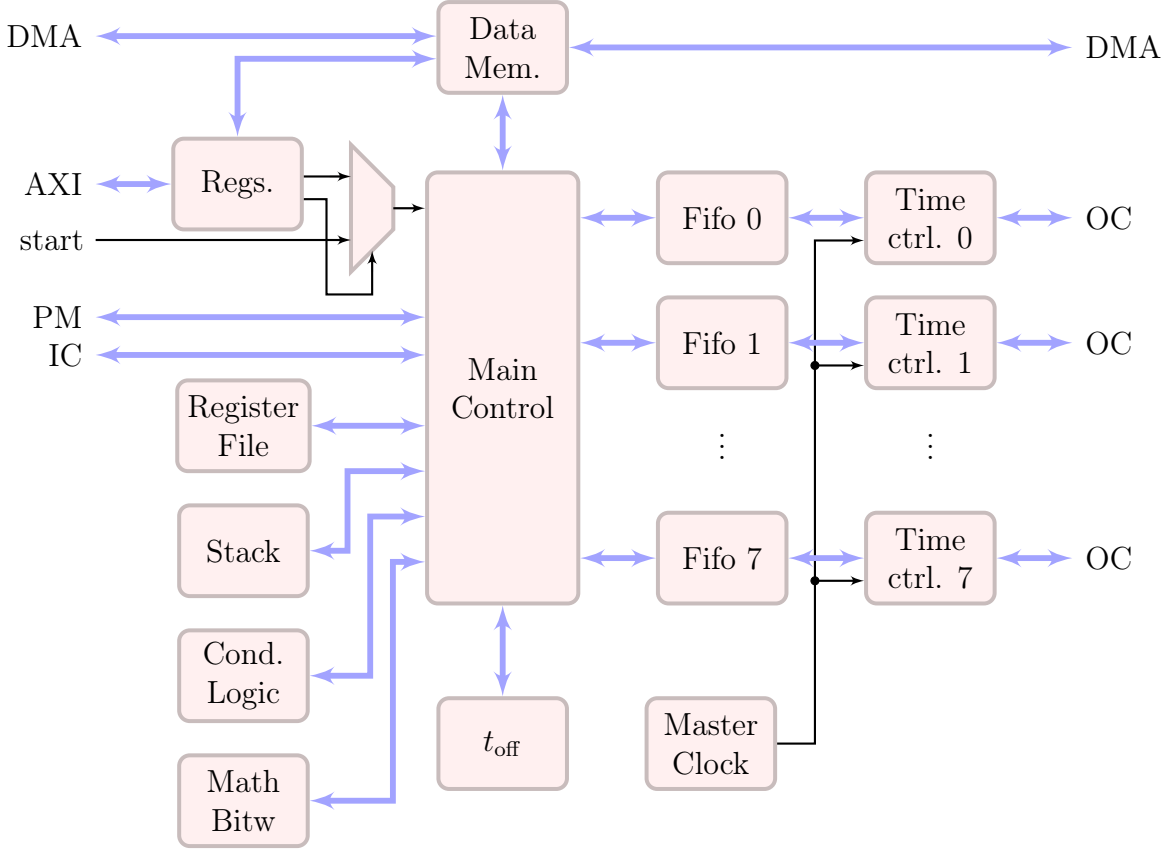

Figure 1: tProcessor block diagram with their main components.
Figure 1 shows the block diagram of the tProcessor block. The tProcessor has a Main Control state machine that decodes the instructions coming from the external program memory (PM). This memory is reserved for program only, and the user cannot read or write from the processor into this space..
Now the timed-instruction mechanism has been explained, going back to the diagram of Fig. 1, it can be seen the tProcessor provides 8 output channels (OC), implemented as axi-stream master interfaces. Each channel has its own fifo and associated time-control. This allows to execute instructions at the same absolute time in different channels. This may be useful in some special cases where events need to be either overlapped or executed at the same time for a specific experiment.